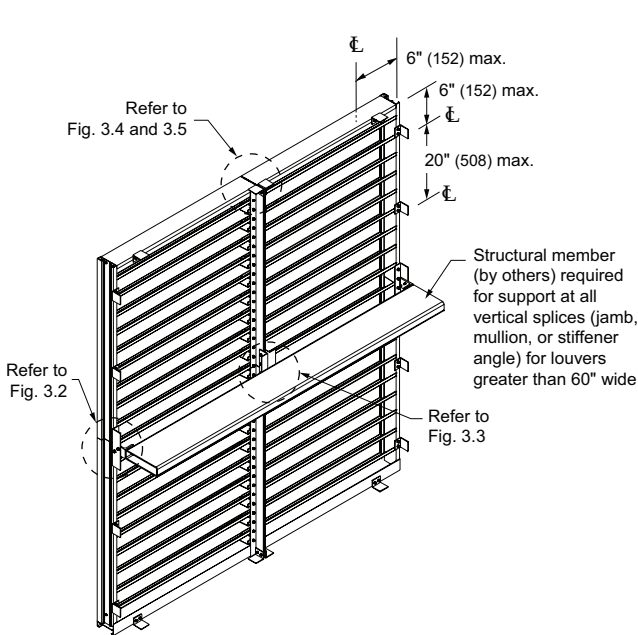

Fig. 3.1 Clip Angle - Multiple Section Louver
1. Locate all anchor clip angles [Minimum 1-1/2" x 2" x 1/8" thick x 2" long (38 x 51 x 3 x 51)] as shown in fig. 3.1 (Clip angles are by others or optional by All-Lite).